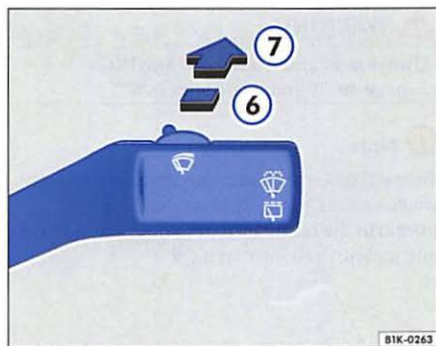

Fig. 45 Windshield wiper lever: Rear window wiper
- Push the lever forward until it engages ⇒ fig. 45 ⑥. The wiper operates about every 6 seconds.